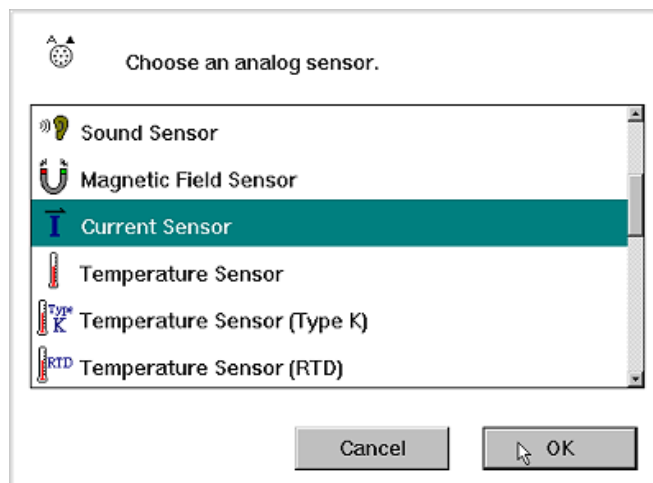

Figure 3. Setting up the Current Sensor in *Science Workshop*.
- 3 Select "Current Sensor" from the drop-down menu (Figure 3).